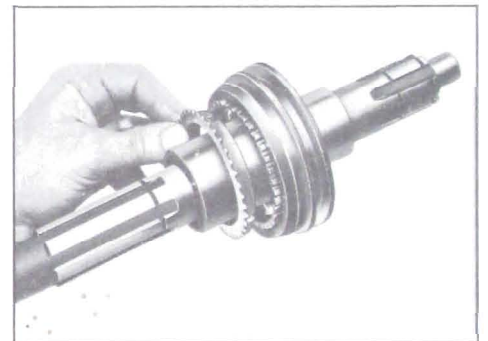

Figure 4-32—Installing Synchronizing Ring
2. Install the first speed gear synchronizing ring so the notches in the ring correspond to the keys in the hub. See Figure 4-32.